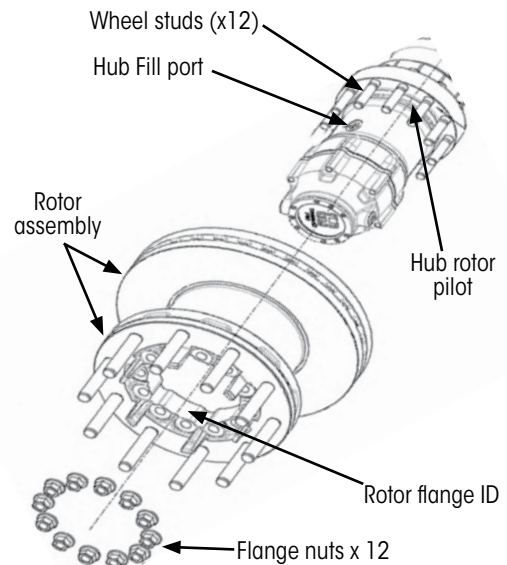

Figure 1: Outboard Mounted Rotor
2. With hub mounted on the axle, slide the new rotor assembly onto the hub until the rotor flange ID engages the hub rotor pilot (Figure 1).
NOTE: Ensure the hub fill port (Figure 1) is not directly under a wheel stud.